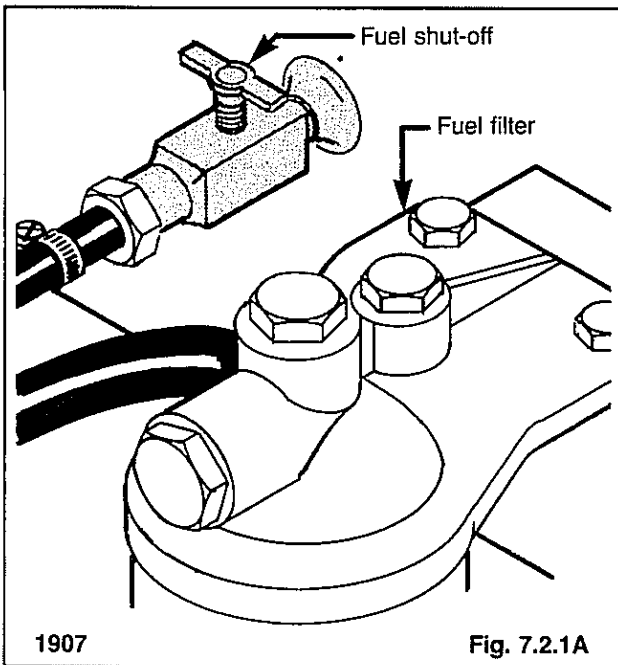

Fig. 7.2.1A
3. Shut off the fuel supply at the tank (Fig. 7.2.1A).